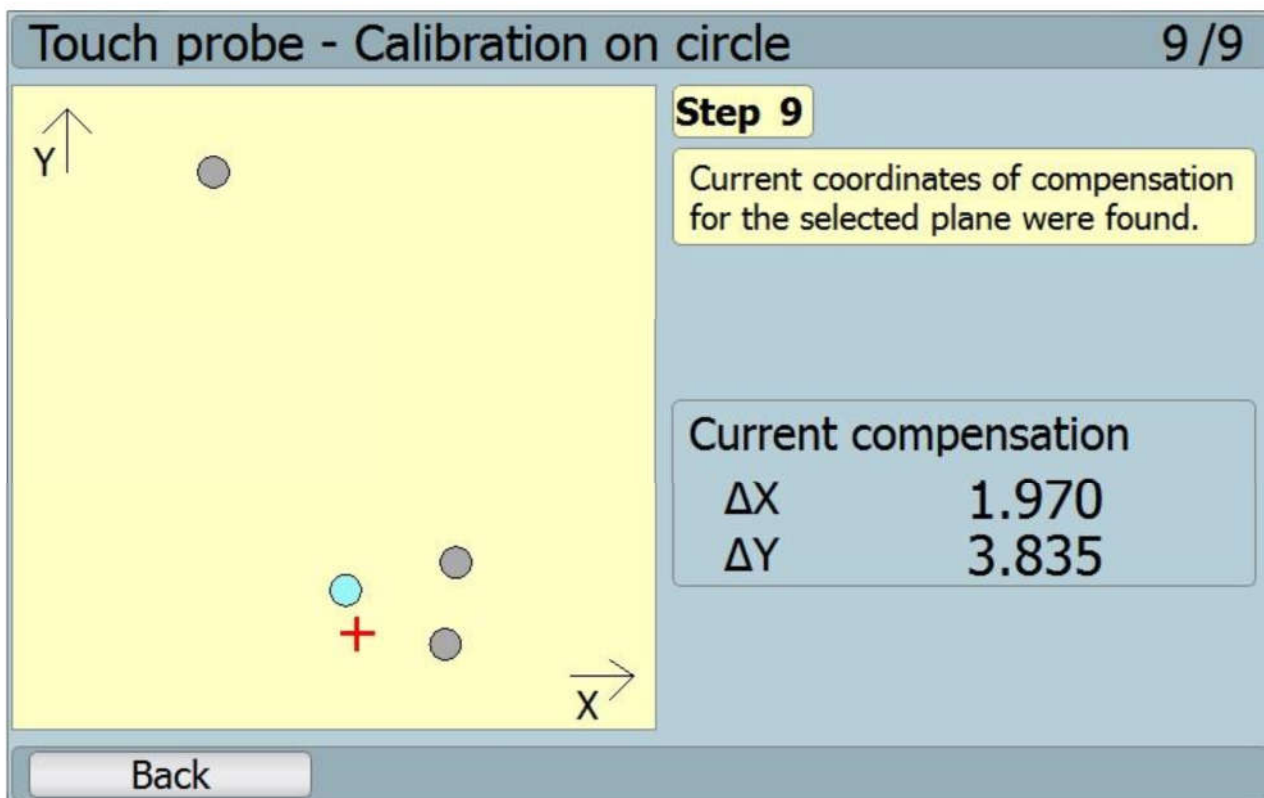

Fig. 43: Touch probe – calibration on the circle – last step
4. Finally, four centres are found with the compensation values. In ideal case, all four centres are the same and the compensation is zero (see fig. 43: Touch probe – calibration on the circle – last step).